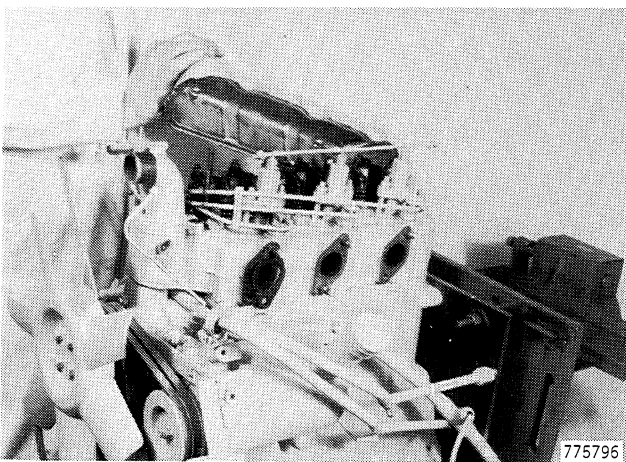

Figure 170
- Clean old gasket material from valve cover and install a new gasket. Install valve cover, Figure 170.